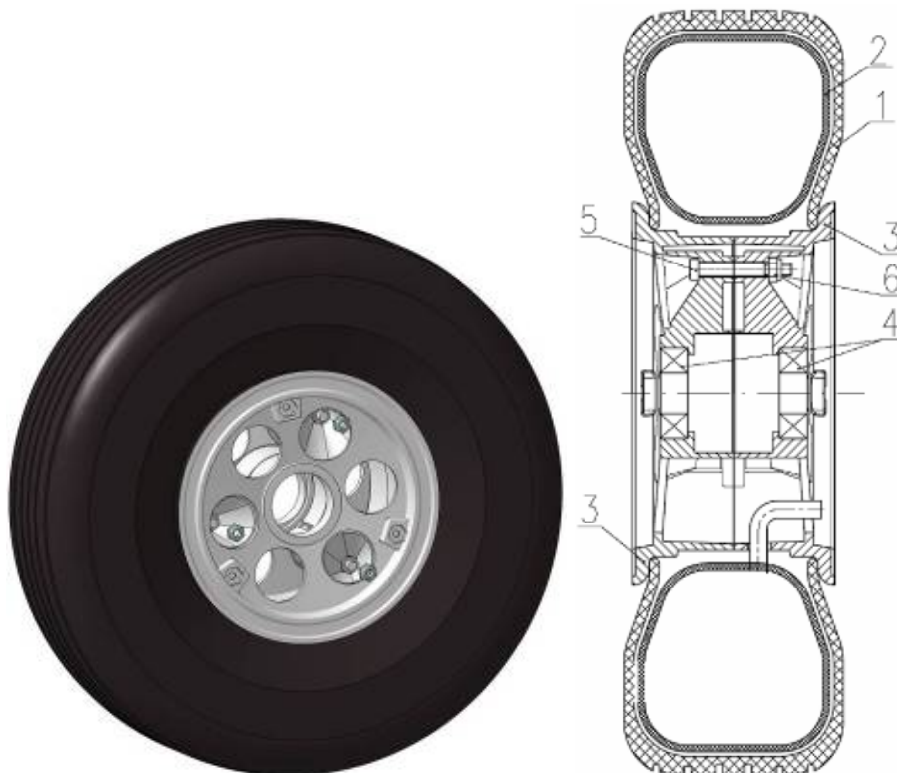

Fig. 32-20-6
B. Tire and Tube Inspection and Replacement (Fig. 32-20-6)